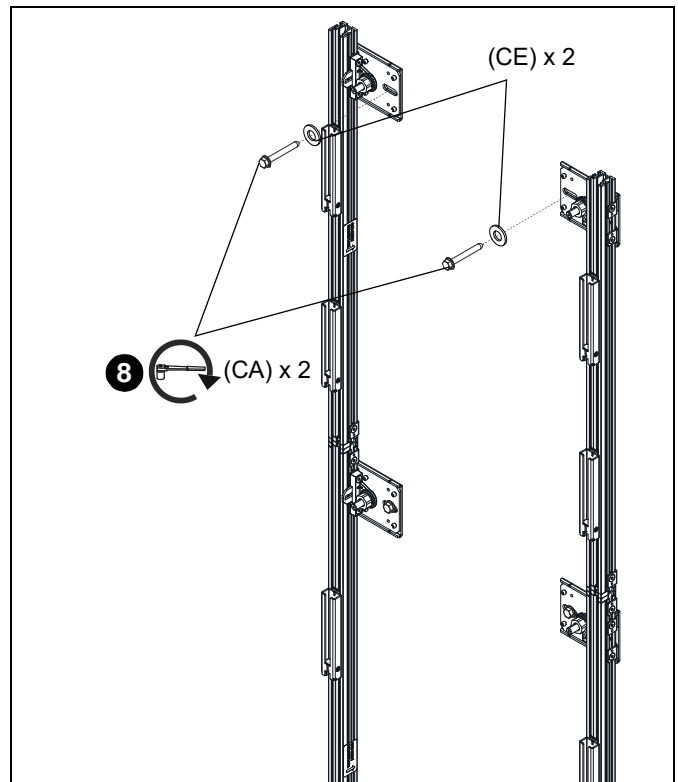

Figure 23
- Remove socket head cap screw and loosen side screws at bottom of extender uprights (F and G) using 1/8" hex key. (See Figure 23)
- Insert extender uprights (F and G) into T-slots on starter uprights (A and B). (See Figure 23)
- Tighten side screws and re-install removed socket head cap screw through starter mount extrusion. (See Figure 23)
- Use 5/16 x 2 1/2" hex head cap screws (CA) and 5/16" washers (CE) to secure extender uprights to wall. (See Figure 23)